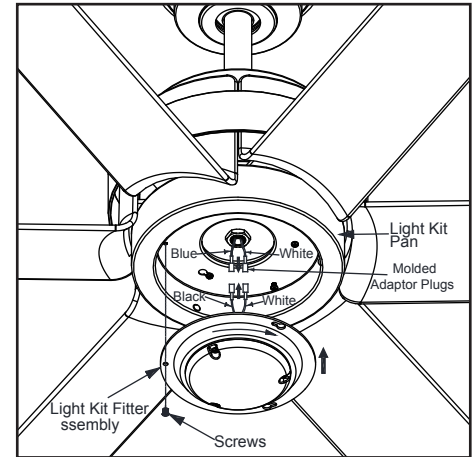

Figure 18
4. Push the light kit fitter assembly up so that the two loosened screw heads fit into the keyhole slots. Turn the light kit fitter assembly clockwise, tighten the screws. Re-install the screw that was removed in step 3 and tighten firmly. (Figure 18)